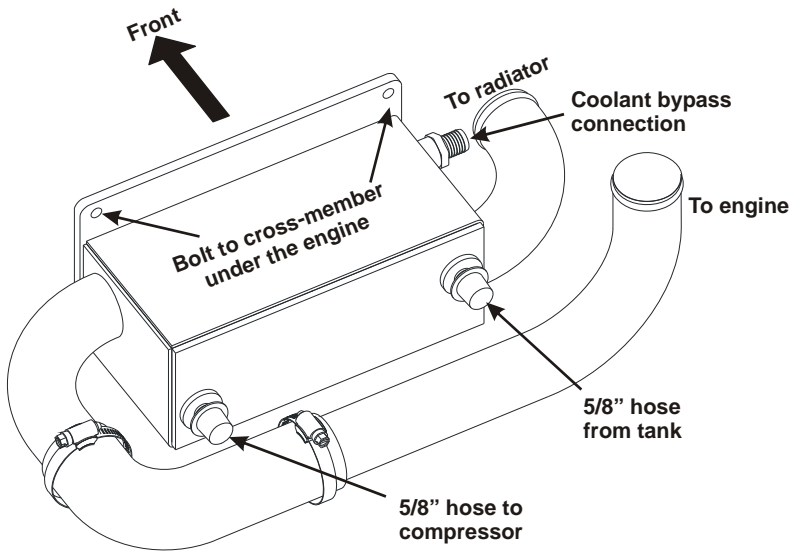

Figure 3.3
- Reverse the direction of the OEM lower radiator hose and connect it between the cooler and the water pump (Figure 3.3). Secure it with clamps.
- Connect the 5/8 inch hose from the tank to the fitting on the driver side of the cooler and tighten the fitting (Figure 3.3).